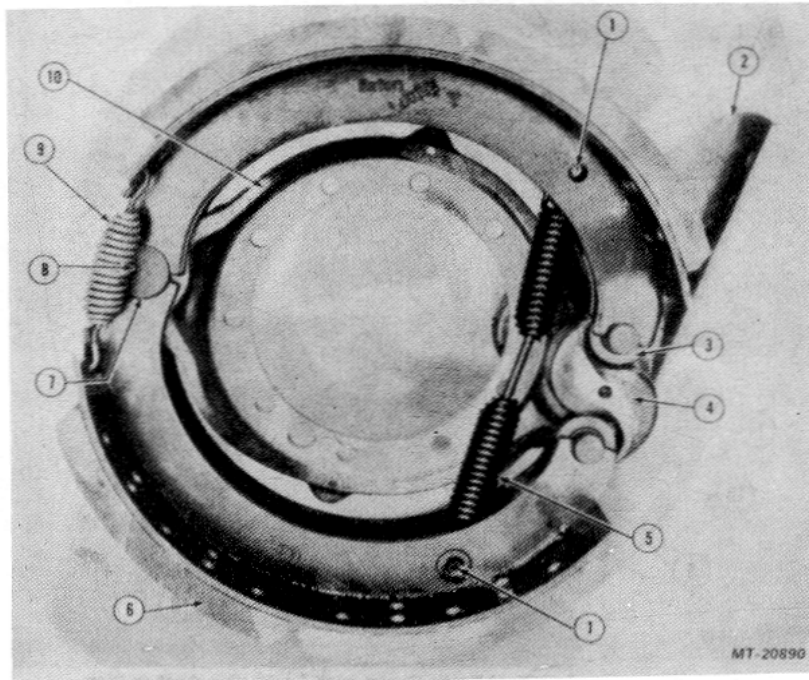

Fig. 7 Typical Brake Group with Fixed Anchor Pins
1. Eaton brake groups (Fig. 7) use a fixed anchor pin with open end shoes at anchor end.
Eaton Brake Group (Fig. 7)